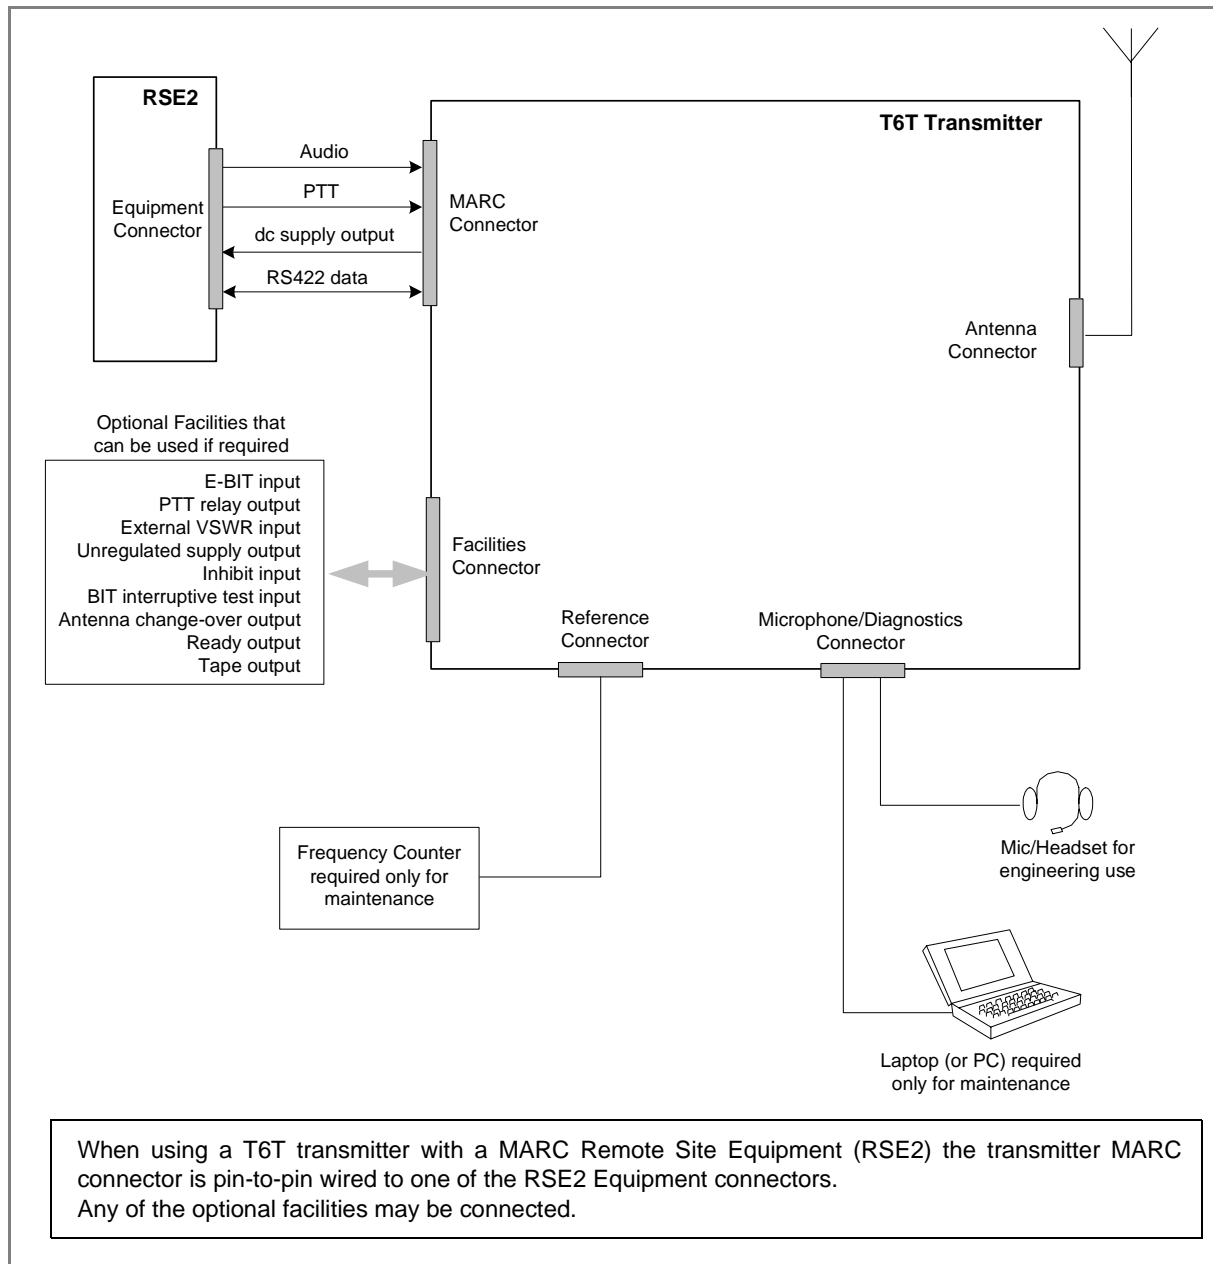

Fig 3 T6T Transmitter Configured for use with MARC
- ❑ T6T transmitter configured for use with MARC (see Fig 3).